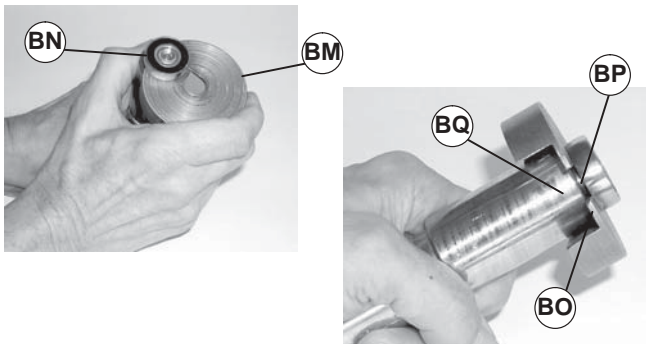

Figure 35
1. Place bearing removal tool (Figure 35, item BM) (part # 456063) below bearing (BN) with lip (BO) located in gap (BP) between bearing and spindle hub (BQ) as shown.